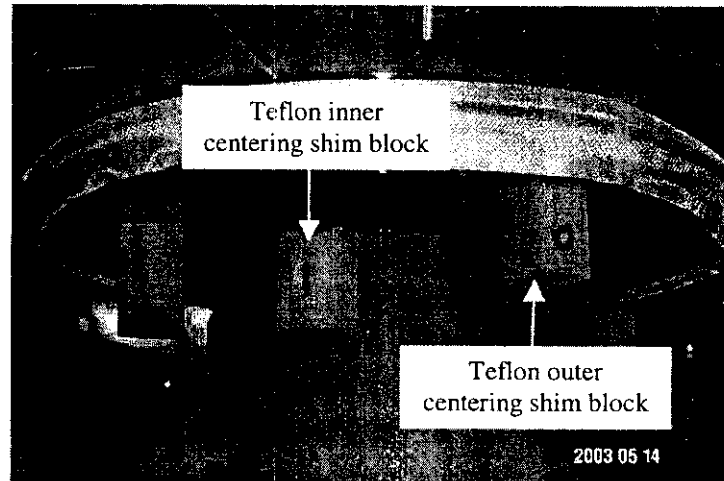

Figure 1.23 The installed Teflon centering shim blocks.
- 1.23** Center the lower end of the lead in the chimney using the centering shim blocks. The Teflon inner centering shim blocks are labeled with an 'I' and go between the power lead and the lower insulator. The Teflon outer centering shim blocks are labeled with an 'O' and go between the lower insulator and the chimney. The installed Teflon centering shim blocks are shown in Figure 1.23.